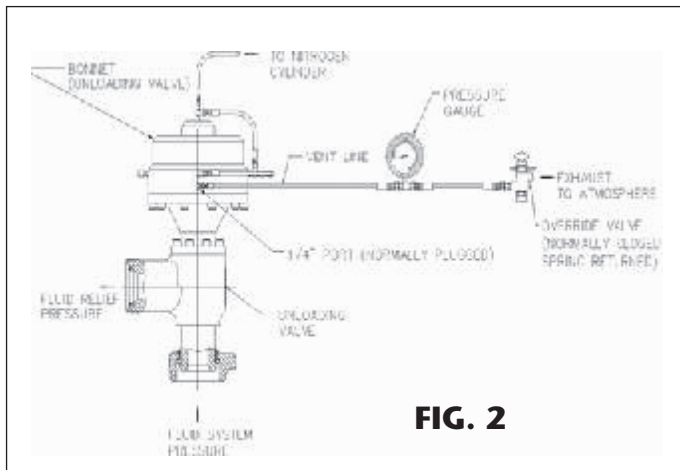

FIG. 2
Figure 2 illustrates the circuit required to employ the override valve. The vent line connects to the valve through the 1/4" port, replacing the pipe plug which is normally installed. The override is a normally closed, spring returned valve. Once the Unloading Valve has sequenced and is ready to reset, the override valve must be opened and held open for approximately 5 seconds to relieve gas pressure in the bonnet.
- If the nitrogen cylinder (2) is attached, close the high-pressure cylinder valve (20). Then bleed down and remove the nitrogen line (19) (and vent line from Figure 2, if so equipped) from the unloading valve (1) (Fig. 4).